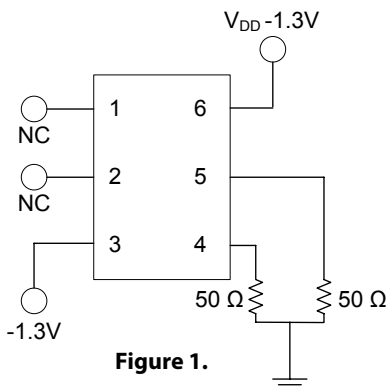

Figure 1.
4. Figure 1 defines the test circuit and Figure 2 defines these parameters.